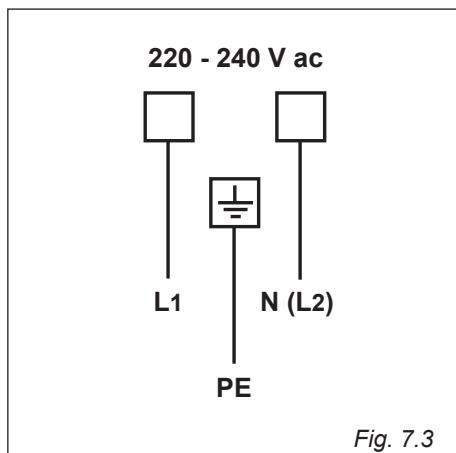

Fig. 7.3
- The new supply cable, of suitable type and section, is connected to the terminal board following the diagram of fig. 7.3.